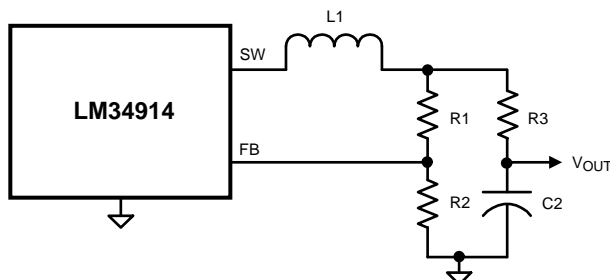

Figure 13. Alternate Minimum Output Ripple
c) Alternate minimum ripple configuration: The circuit in Figure 13 is the same as that in the Block Diagram, except the output voltage is taken from the junction of R3 and C2. The ripple at V_{OUT} is determined by the inductor's ripple current and C2's characteristics. However, R3 slightly degrades the load regulation. This circuit may be suitable if the load current is fairly constant.